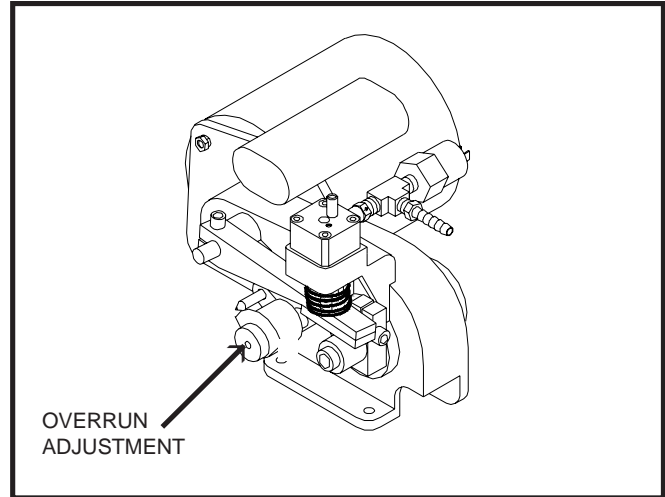

Figure 7
- C. On air compressor side of pump, locate the long/slender piston rocking arm. The rocking arm downward travel is limited by a stationery cam. On the face of the cam there is an overrun setting indicator plate numbered 3 thru 8 and an adjustment knob (Fig. 7).